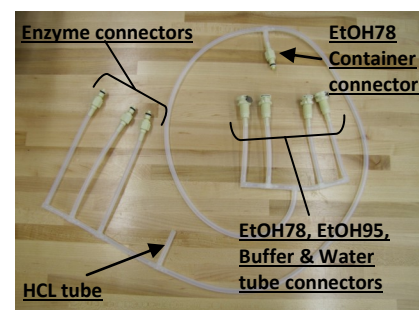

Figure 2
2. Obtain the TDF70 Line Flush Tubing Assembly as shown in Figure 2. Note the nine connection points on the Tubing Assembly.